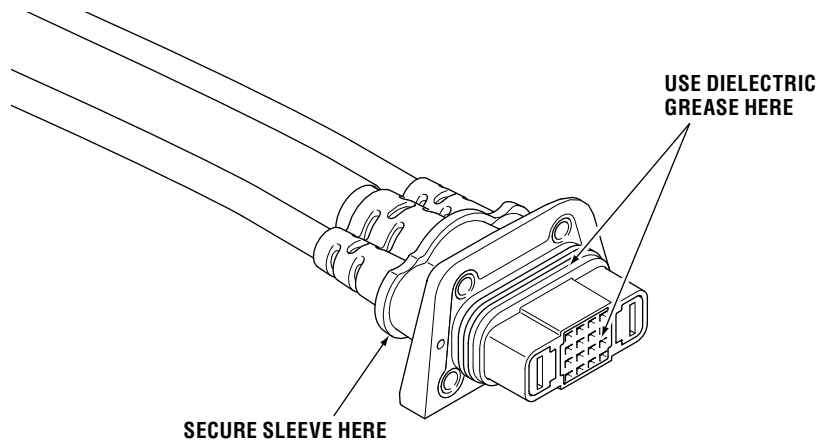

Figure 5-10.
2. Apply a light coat of the supplied dielectric grease to the connector seal and the pin slots at the end of the harness. See figure 5-10.